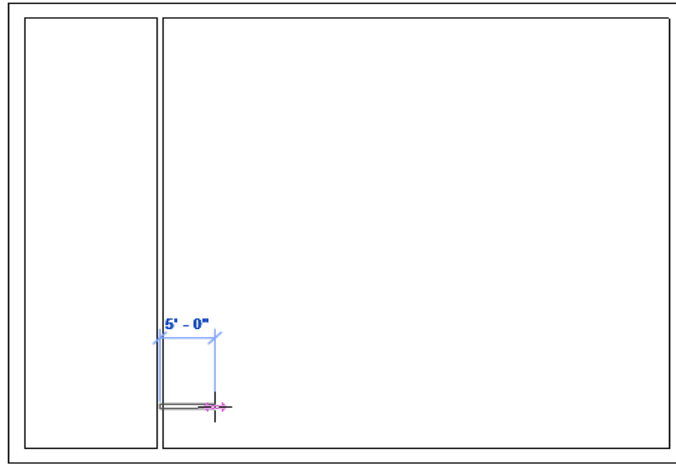

Figure 3-83 Specifying the starting point of third interior wall
3. Move the cursor to the bottom of the wall just drawn and then move it vertically upward. When the temporary dimension appears, enter **5'0"**(**1524 mm**) and then press ENTER; the starting point of the third interior wall is specified, as shown in Figure 3-83.